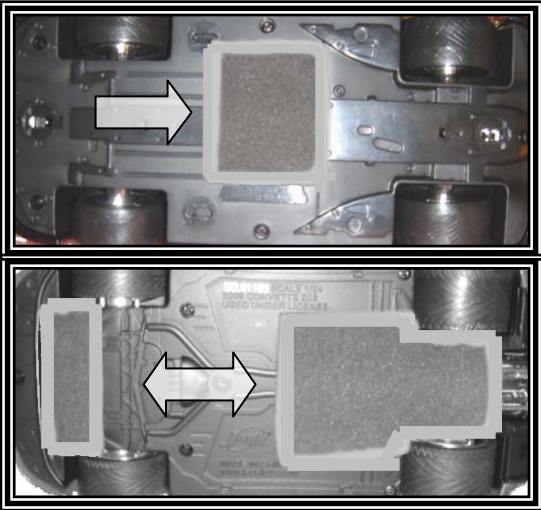

Fig. 4
- Place the vehicle centered on top of the vehicle support (See top of Fig. 4 for approximate location)
- If the vehicle is not level, then the vehicle support must be cut and placed in the front and rear of the vehicle (See bottom of Fig. 4 for approximate location)